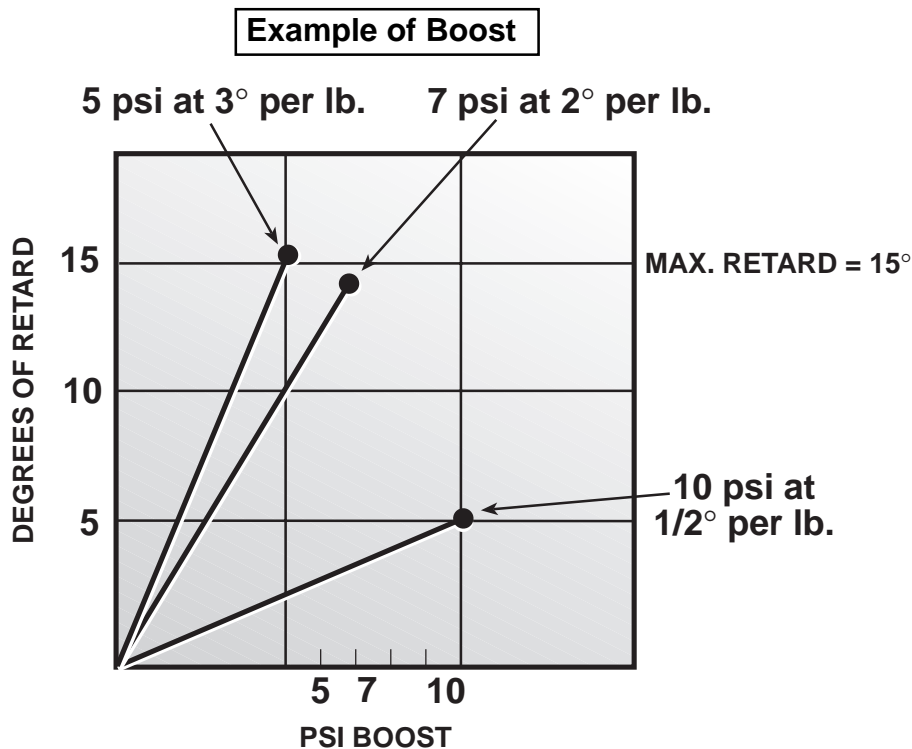

Figure: 15-a
- B. The unit is adjustable from 0° to 4° of ignition retard for each pound of boost, up to a maximum of 20°. (See *Figure 15-a.*)